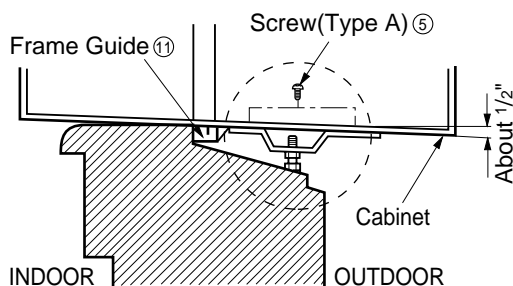

Fig. 4
4. Select the position that will place the Sill Support ② near the outer most point on sill (See Fig. 4)
**NOTE:** Be careful when you install the cabinet (Frame Guides ⑪ are broken easily).
5. Attach the Sill Support ② to the cabinet track hole in relation to the selected position using 2 -type A ⑤ screws in each support (See Fig. 4).